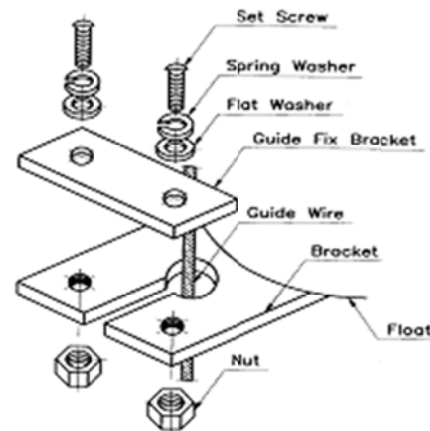

Fig. 14
- Flange the transmitter to the tank level gauge using the accessories shown in Fig. 14. In doing so, flange the transmitter such that the housing section containing the alarm contacts and the terminal box form a vertical or horizontal line.
- Ensure the driving pin engages properly. Do not use force in joining the coupling together again. Tighten hexagonal nuts (5).
- ① 1 Rear of tank level gauge
- ② 2 Threaded bolt
- ③ 3 Studded disc
- ④ 4 Spring washer
- ⑤ 5 Hexagonal nut
- ⑥ 6 Drive shaft
- ⑦ 7 Coupling part
- ⑧ 8 Hexagonal nut
- ⑨ 9 O-ring
- ⑦ Once again, put the measuring tape through both wheels, connection pipe and socket on the roof until it comes to inside of tank. You shall frequently check whether the both wheels have smooth rotation or not, when the tape passes
- ⑧ Disassemble set screw from bracket attached on the both side of float, and separate guide fix bracket from it. Then, put the end of wire into a hole on the bracket and tighten the set screw again (Refer to fig. 14).